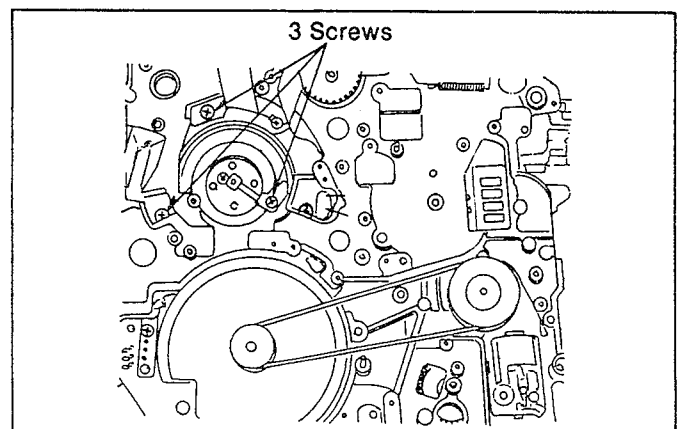

Fig. M41
- (1). Install the Cylinder unit from the top side, and then tighten the 3-Screws as shown Fig.M41.